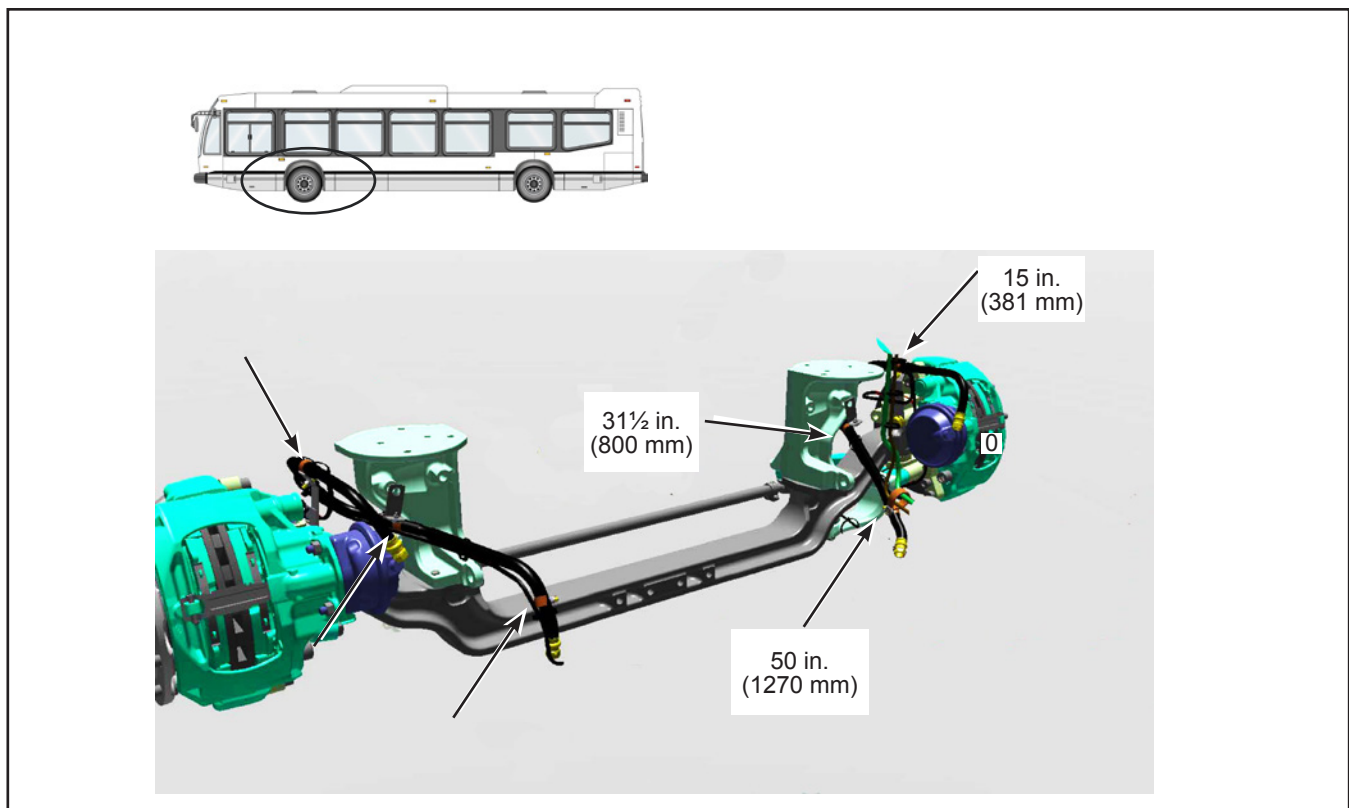

Figure 1 - Front Axle P-Clamp Location
- 1.1.2. Verify that P-clamps are installed at the specified location in this document. See Figures 1 to 5.
2.2. Locate the six P-clamps to replace on the front axle. See Figure 1.